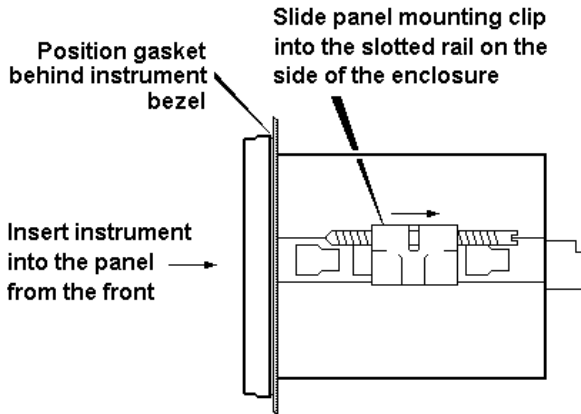

Fig 5 Fitting panel mounting clips
- Fix two panel mounting clips to opposite sides of the instrument and tighten until the indicator is secure as shown in Fig 5. Four clips are required to achieve an IP65 between a BA528C and the instrument panel.